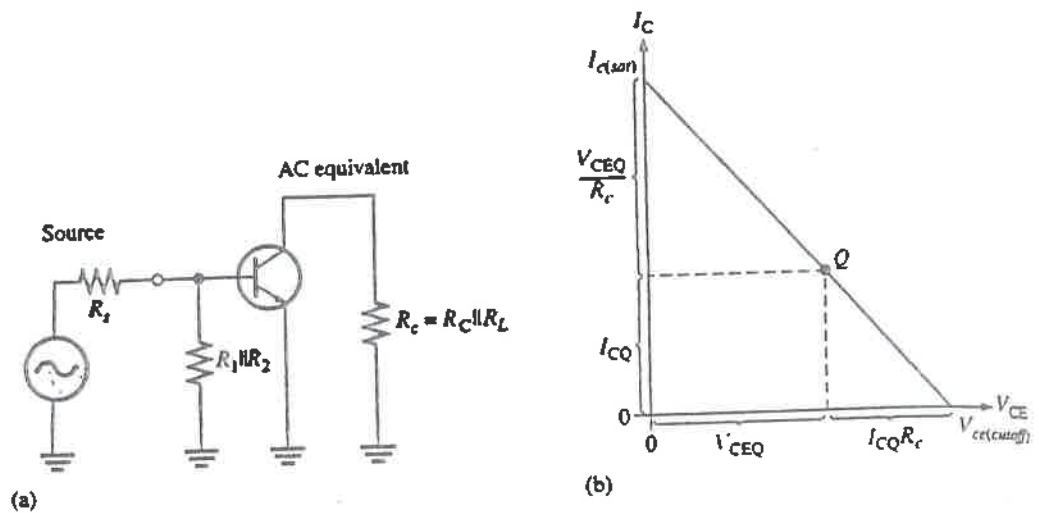

FIGURE 7-8
**AC Load Line** From the ac viewpoint, the circuit in Figure 7-6 looks different than it does from the dc viewpoint. The collector resistance is different because  $R_L$  is in parallel with  $R_C$  due to the coupling capacitor  $C_3$ , and the emitter resistance is zero due to the bypass capacitor  $C_2$ ; therefore, the ac load line is different from the dc load line. How much collector current can there be under ac conditions before saturation occurs? To answer this question, refer to the ac equivalent circuit and ac load line in Figure 7-8. Remember that a lowercase italic subscript indicates an ac quantity and an uppercase nonitalic subscript indicates a dc quantity. For example,  $R_c$  is the ac collector resistance and  $R_C$  is the dc collector resistance.  $I_{CQ}$  and  $V_{CEQ}$  are the dc Q-point coordinates. Going from the Q-point to the saturation point, the collector-to-emitter voltage swings from  $V_{CEQ}$  to near 0; that is,  $\Delta V_{CE} = V_{CEQ}$ . The change in collector current going from the Q-point to saturation is therefore